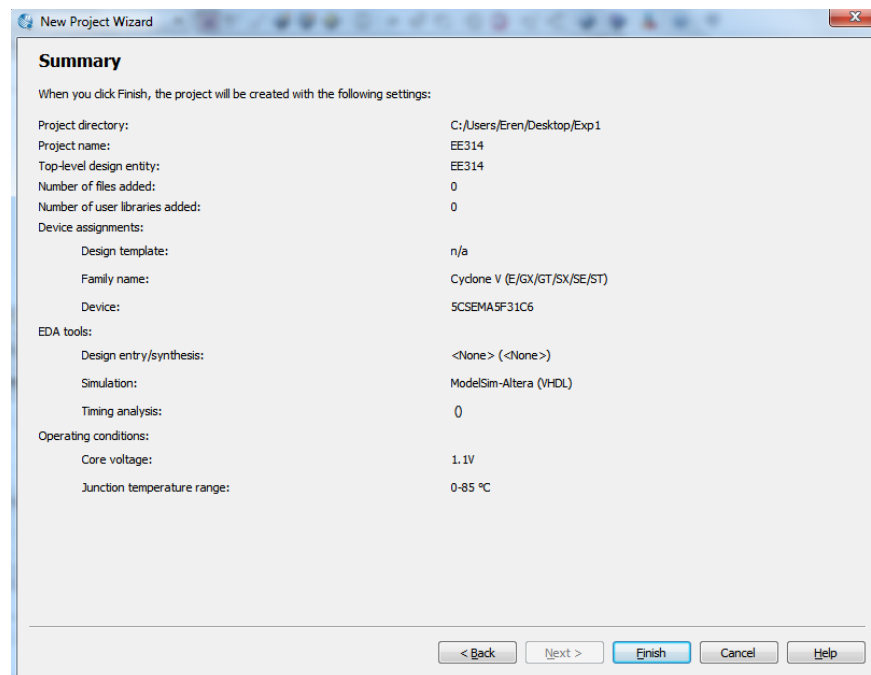

Fig. 4: Summary Window
8) A summary window will be visible. The summary window should be similar to the Fig. 4. Click **Finish**.